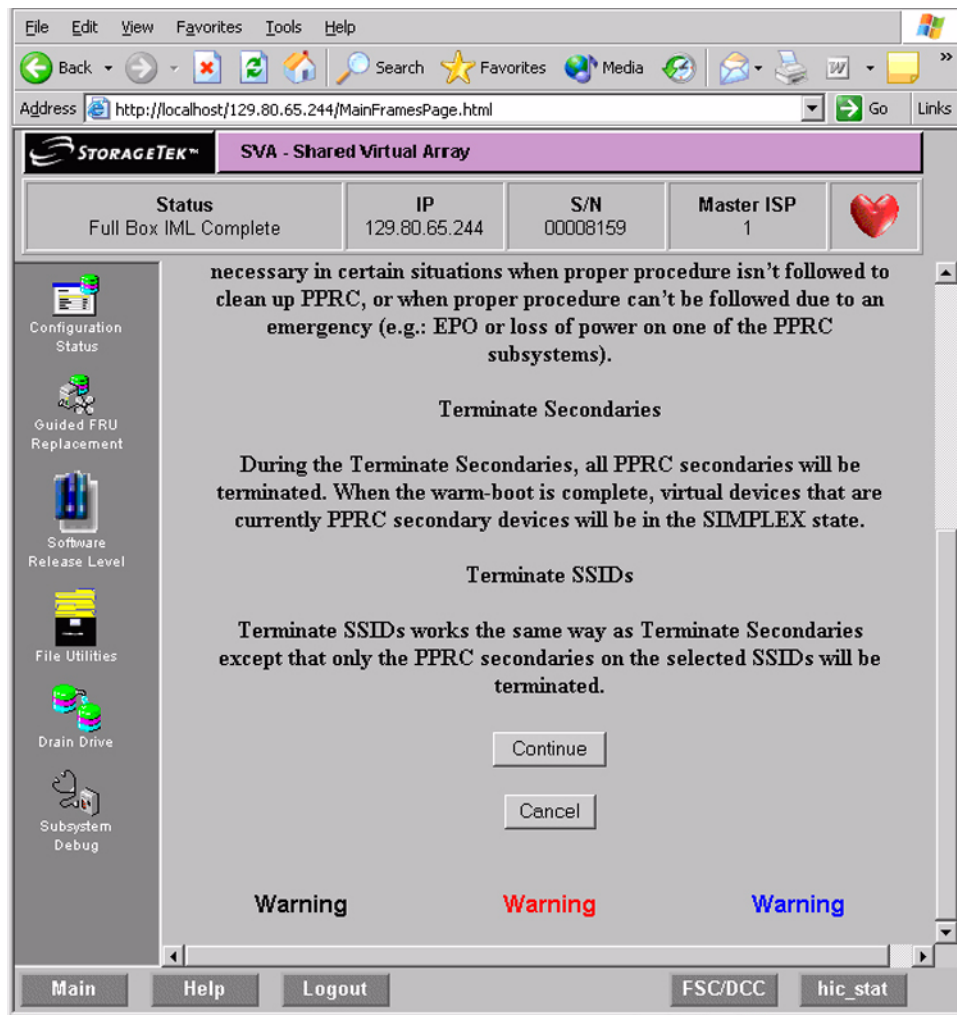

Figure 3 Terminate PPRC Warning (lower half)
4. The following warning screen appears. At the bottom of this warning screen, click the **Continue** button (see Figure 3 on page 6).